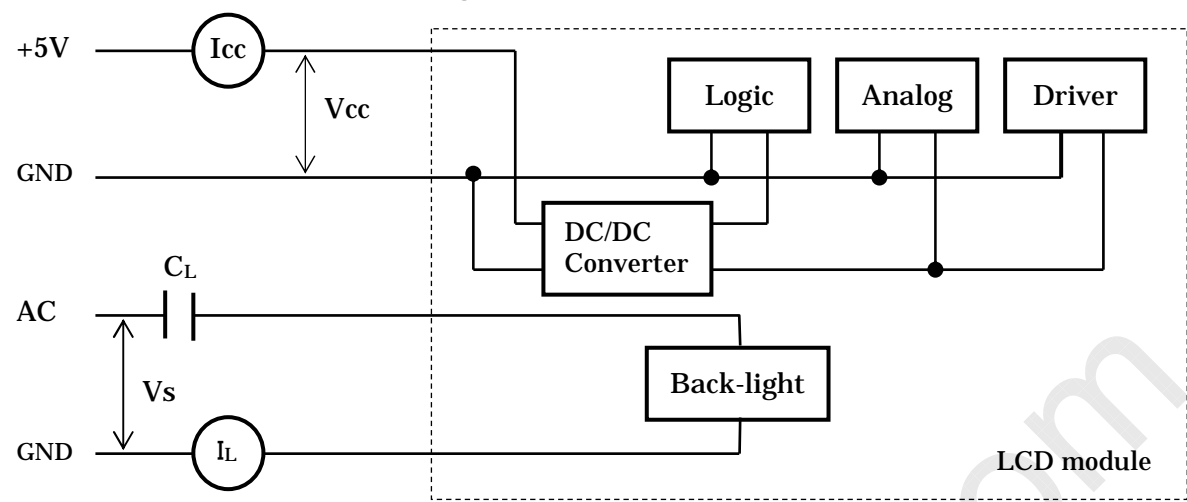

Figure 8-1 Measurement circuit
Table 8-1 shows the electrical specifications of this LCD module. Figure 8-1 shows the measurement circuit. Figure 8-2(A) shows the equivalent circuit of the logic signal input area. Figure 8-2(B) shows the equivalent circuit of the supply voltage Input area.
Measurement circuit is based on Figure 8-1.